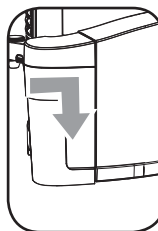

Fig. 2
- 2- Attach the carafe to the machine by pushing down gently until it clicks into place (Fig. 2).